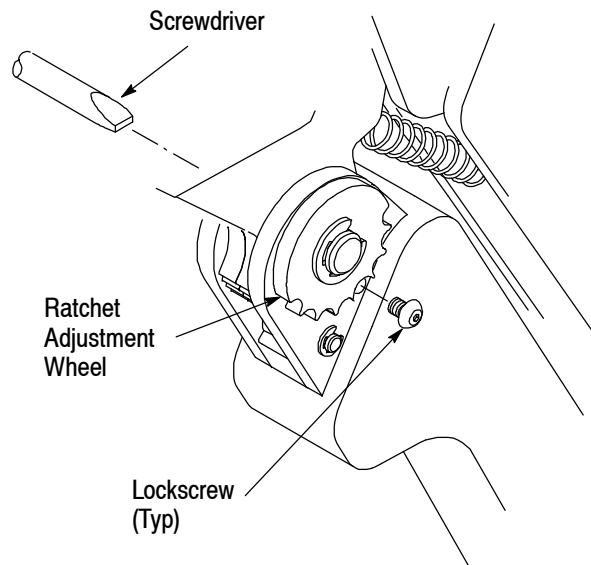

Figure 5
**7. RATCHET (Crimp Height) ADJUSTMENT (Figure 5)**